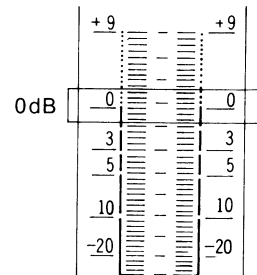

Fig. 18
- At this time, check that 0dB indicator is lighted halfway (intermediate brightness between full brightness and light-out: See fig. 18).